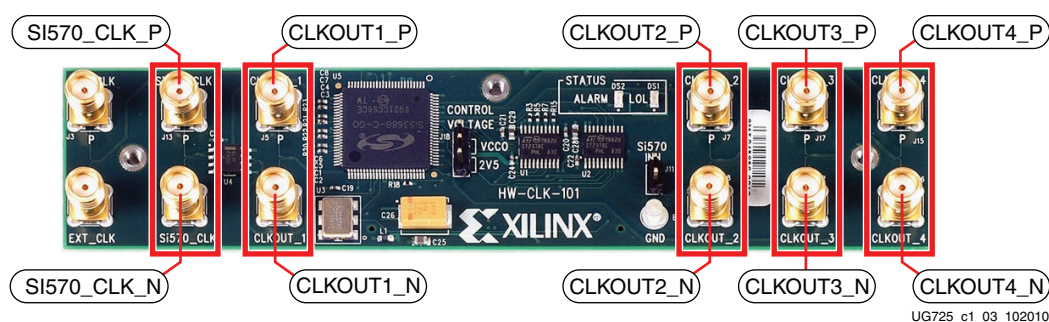

Figure 1-3: SuperClock-2 Module Output Clock SMA Locations
The SuperClock-2 module provides LVDS clock outputs for the GTH and GTX transceiver reference clocks in the IBERT demonstrations. Figure 1-3 shows the locations of the differential clock SMA connectors on the clock module which can be connected to the reference clock cables. The four SMA pairs labeled CLKOUT provide LVDS clock outputs from the Si5368 clock multiplier/jitter attenuator device on the clock module. The SMA pair labeled Si570\_CLK provides LVPECL clock output from the Si570 programmable oscillator on the clock module. For the GTH IBERT demonstration, the output clock frequencies are preset to 174.690 MHz. For more information regarding the SuperClock-2 module, refer to UG770, HW-CLK-101-SCLK2 SuperClock-2 Module User Guide.
**Note:** The image in Figure 1-3 is for reference only and might not reflect the current revision of the board.